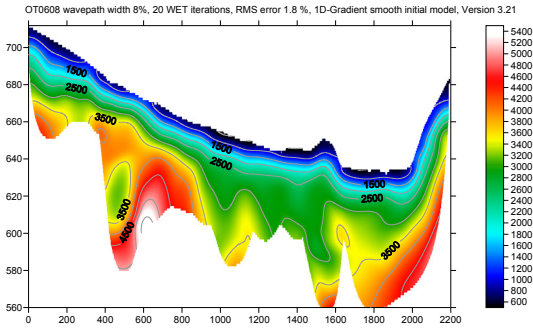
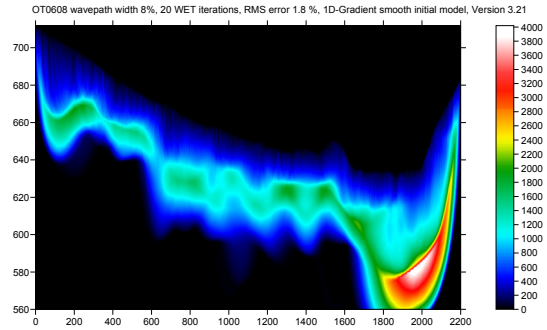

Fig. 5 : Default *Smooth inversion*, wavepath width 8%
Fig. 6 : wavepath coverage obtained with Fig. 5
- Confirm prompts, for default WET output after 20 iterations (Fig. 5 and 6)
- Note artefact in Fig. 5, at offset 500m and elevation 600m. This is due to low wavepath coverage (Fig. 6).
- Note **removed artefact** at offset 500m and elevation 600m. Also note **deeper imaging**, compared to Fig. 5.